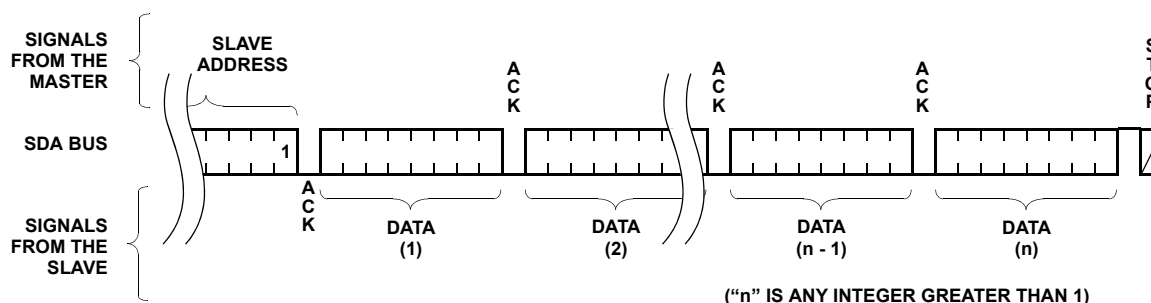

FIGURE 11. SEQUENTIAL READ SEQUENCE
The data output is sequential, with the data from address n followed by the data from address $n + 1$. The address counter for read operations increments through all page and column addresses, allowing the entire memory contents to be serially read during one operation. At the end of the address space the counter "rolls over" to address 0000_H and the device continues to output data for each acknowledge received. Refer to Figure 11 for the acknowledge and data transfer sequence.
- one bit of the slave command byte is a $R/\overline{W}$ bit. The $R/\overline{W}$ bit of the slave address byte defines the operation to be performed. When the $R/\overline{W}$ bit is a one, then a read operation is selected. A zero selects a write operation. Refer to Figure 11.